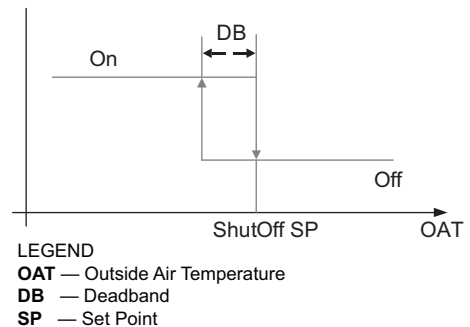

Fig. 59 – Hysteresis Settings
Hysteresis setting (DB) defaults to 2°F (-17°C). See Fig. 59.